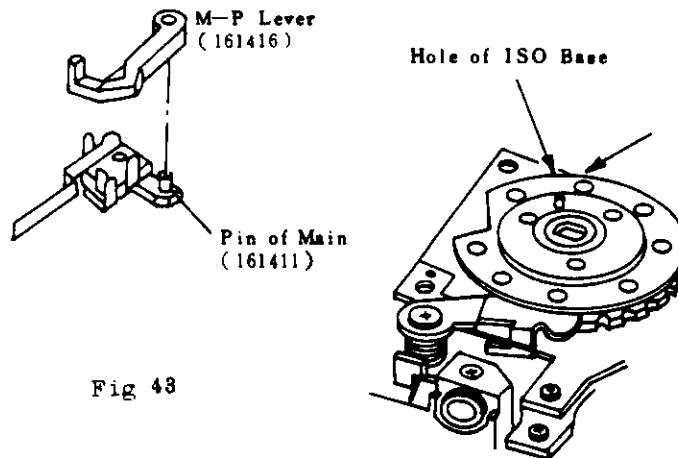
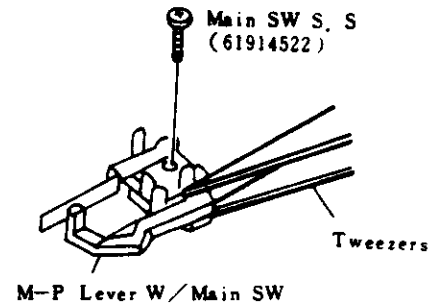

Fig 43
Fig 44
- e) Fit M-P Lever (161416) into the pin of Main Switch (161411) as shown in (Fig 43), and install M-P Lever together with Main Switch with the tweezers as shown in (Fig 44).